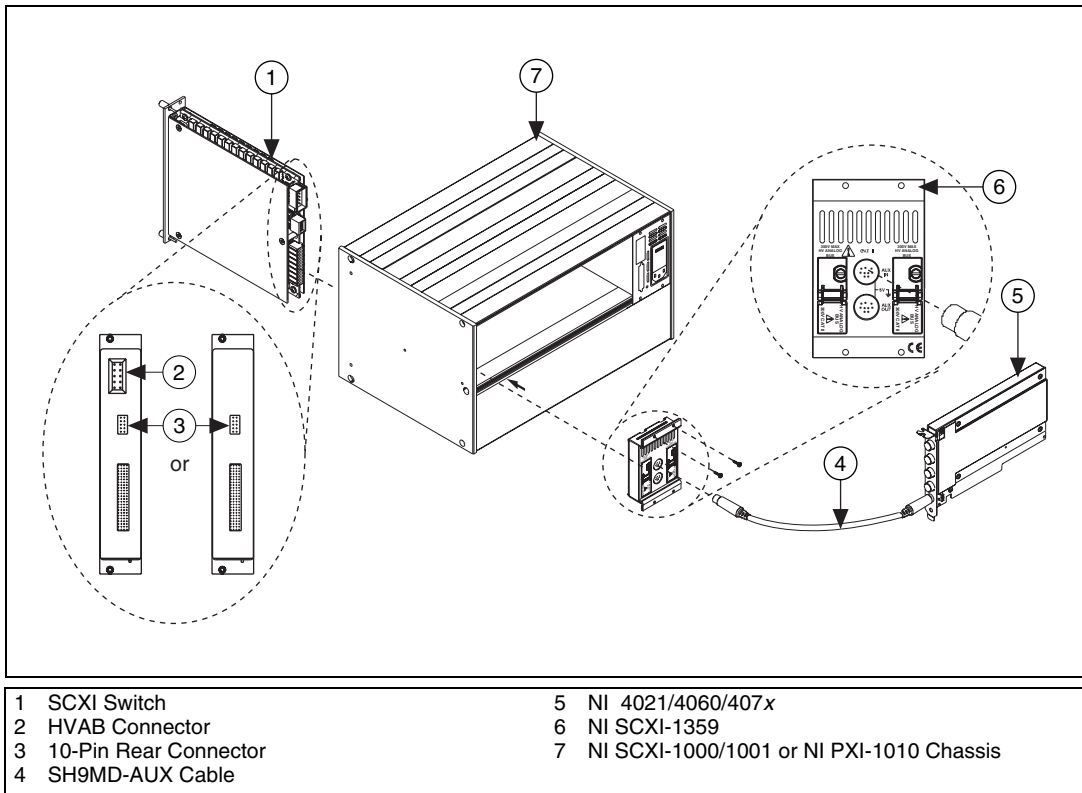

Figure 4. Cabling an NI 4021/4060/407x Switch Controller to a 10-Pin Rear Connector Switch Module
- SCXI kits—Connect one end of the SH9MD-AUX cable to the NI SCXI-1359 cable adapter and the other end to the NI 4021/4060/407x switch controller as shown in Figure 4.